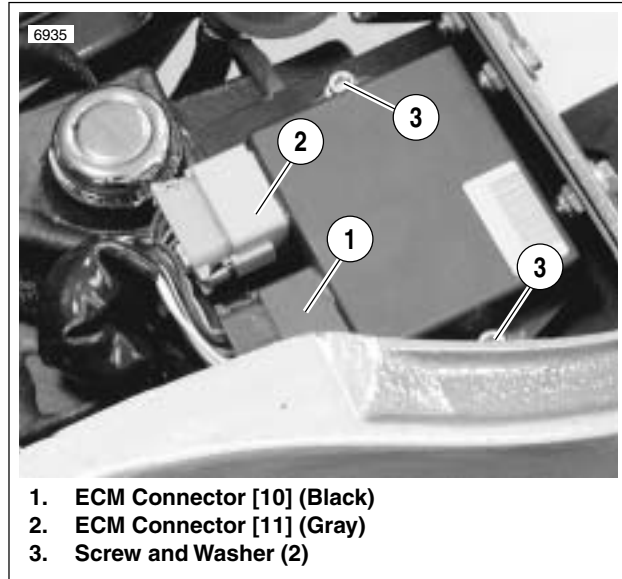

Figure 4-68. ECM
2. See Figure 4-68. Remove two screws and washers (3) to detach ECM from bracket.
1. See Figure 4-68. Attach ECM connectors [10] and [11].
2. Align ECM with bracket mounting holes. Install using two screws and washers (3).